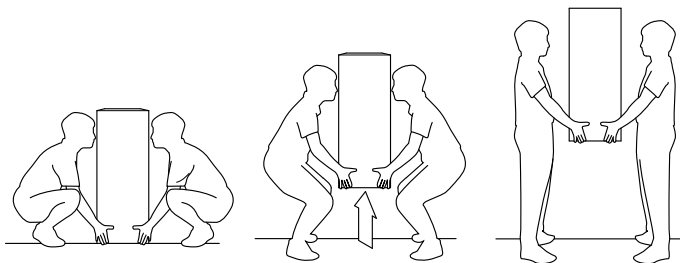

Fig. 1
- When handling or lifting always use safe techniques - keep your back straight, bend your knees. Don't twist - move your feet, avoid bending forwards and sideways and keep the load as close to your body as possible (Fig. 1).